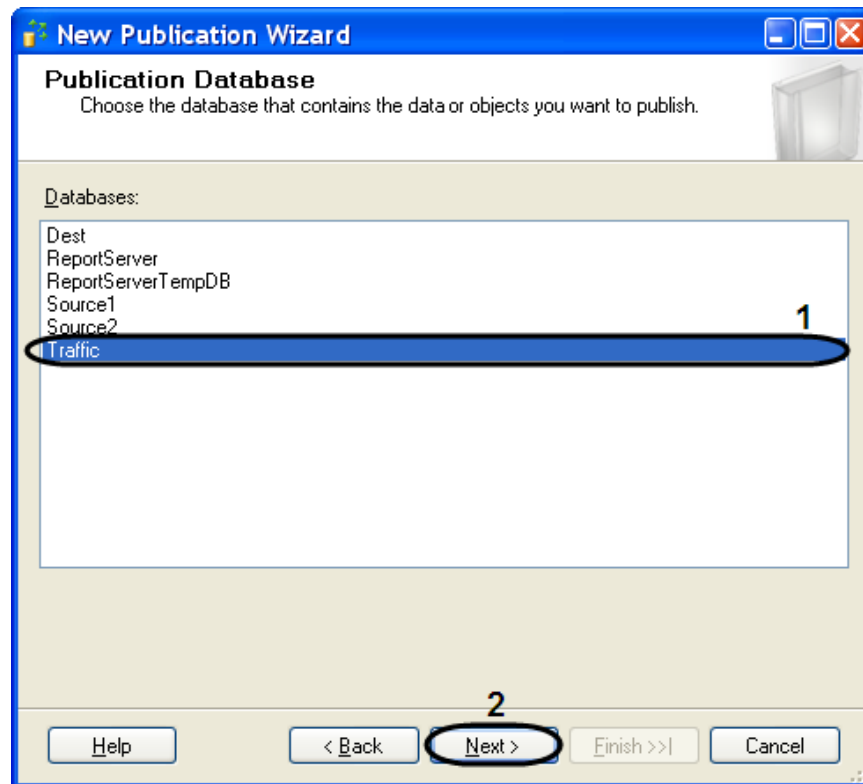

Fig. 9.3—4 Databases selection
- 10.2. Click «Next» to continue (Fig. 9.3—4, 2).
- 10.3. Select the type value of the publication that is being created from the «Publication Type» - «Merge publication» list (Fig. 9.3—5, 1).